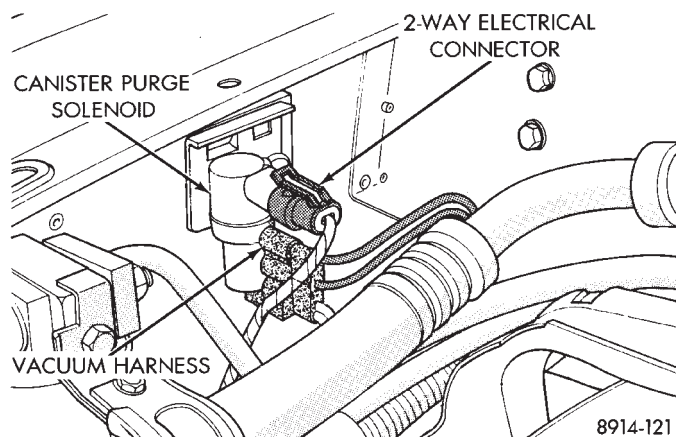

Fig. 3 Canister Purge Solenoid
(2) Verify the electrical connector is attached to the Canister Purge Solenoid (Fig. 3).
(3) Verify vacuum connection at Canister Purge Solenoid is secure and not leaking.